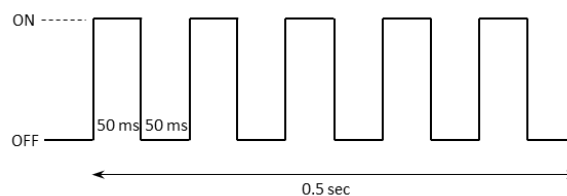

Figure 2-7: The **GREEN** or **RED** LED Pattern After the POST
- a. If the POST passes, **GREEN** is toggled ON and OFF every 50 ms for 0.5 sec, as shown in Figure 2-7. In this case, the LED pattern proceeds to step 4.
- b. If the POST fails, **RED** is toggled ON and OFF every 50 ms for 0.5 sec, as shown in Figure 2-7. In this case, the device restarts and the LED pattern begins again at step 1 after approximately 4 s.